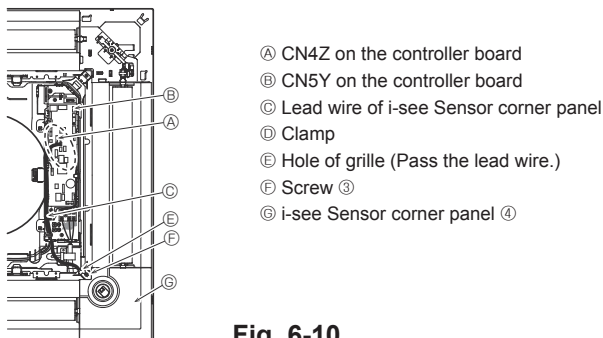

Fig. 6-10
6.4.6. Installation of i-see Sensor corner panel (Fig. 6-10)
- Route the lead wire connector (white, 4 poles and white, 5 poles) of the i-see Sensor corner panel (4) from the side of the electrical box on the main unit and connect to the connector CN4Z and CN5Y on the controller board.